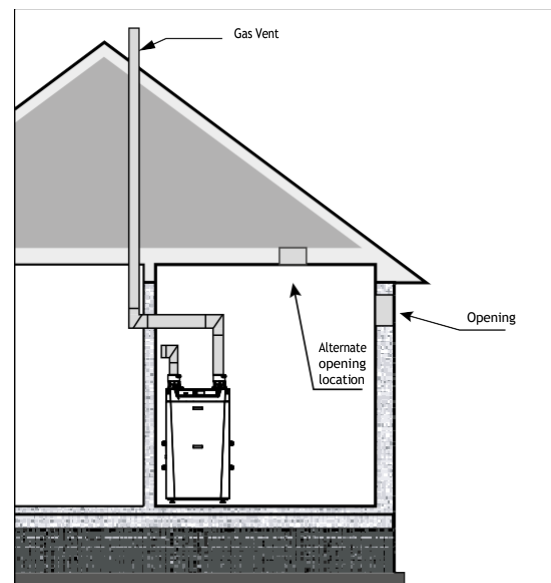

Fig. 2 - All Combustion Air from Outdoors Through One Permanent Air Opening
- *One Permanent Opening Method .* One permanent opening, commencing within 12 in. of the top of the enclosure, shall be provided as shown in Fig. 2 below. The equipment shall have clearances of at least 1 inch from the sides and 6 in. from the front of the appliance. The opening shall directly communicate with the outdoors or shall communicate through a vertical or horizontal duct to the outdoors or spaces that freely communicate with the outdoors and shall have a minimum free area of the following: